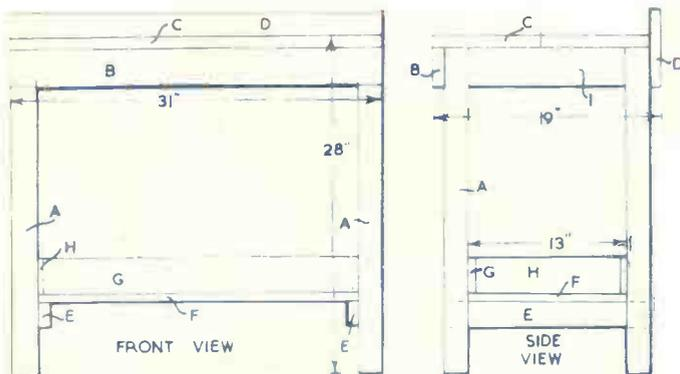
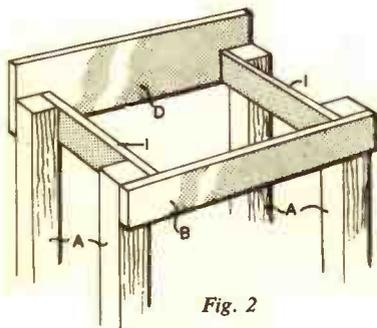

Fig. 1
Fig. 2
The diagrams in Fig. 1 show the front view and side view, with the various parts lettered for easy reference to the instructions, which should be read through carefully before commencing work.
Commence assembly as shown in Fig. 2, using countersunk screws or nails for fixing. Note that the rails (I) go inside the legs, and piece (B) on the front. Next fix the rails (E) in position as shown in Fig. 1. They measure 2 ins. by 1 in. by 17 ins., and should be 4 ins. up from the floor.